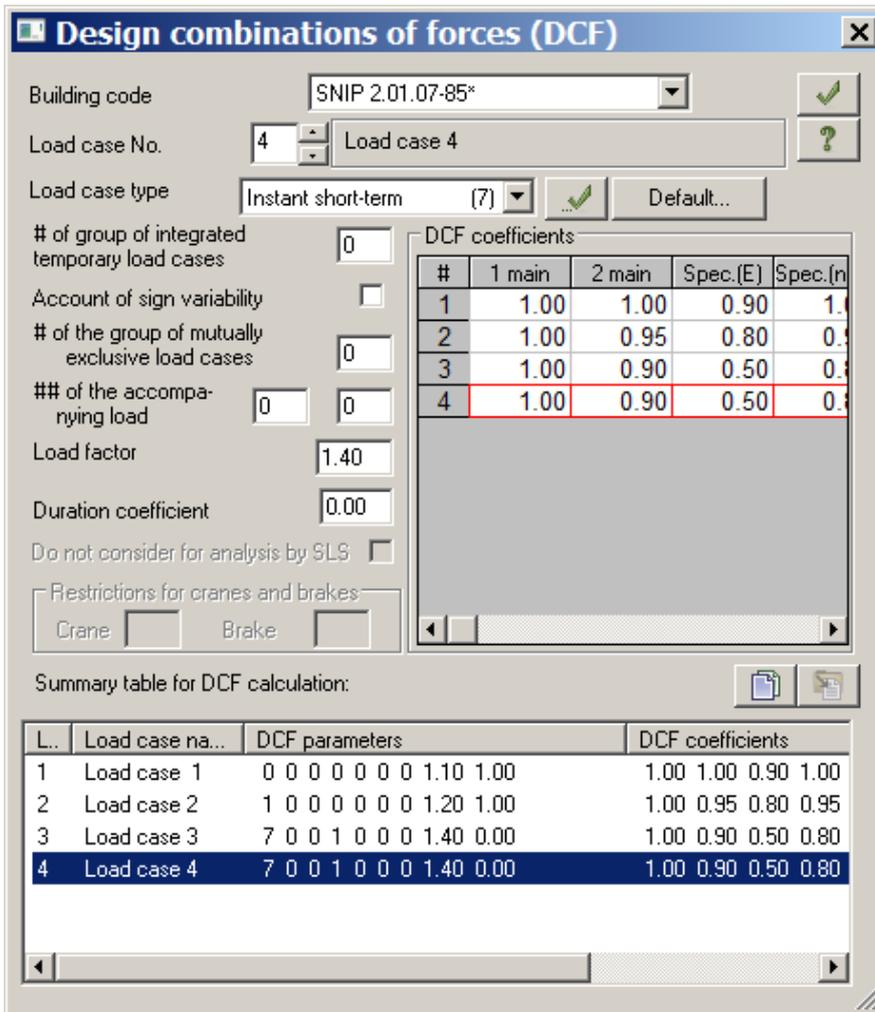

Figure 1.16 Design combinations of forces dialog box
- ⇒ In the **Design combinations of forces** dialog box (see Fig.1.16), select building code **SNIP 2.01.07-85*** and specify the following data:
- DCF table is generated in the **Design combinations of forces (DCF)** dialog box (see Figure 1.16);